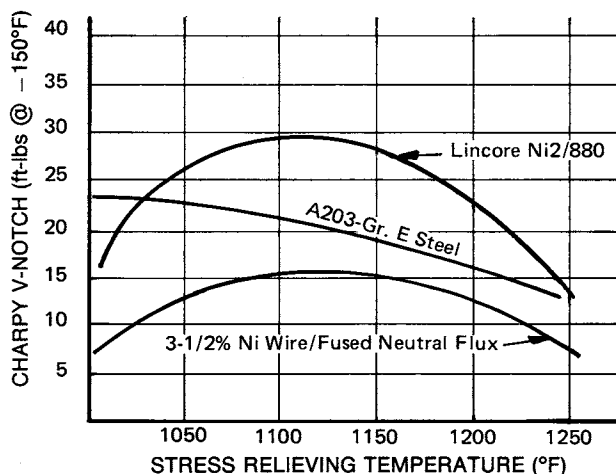

Figure 3
- H The optimum stress relieving temperature for the nickel deposits used to join A203-Grade E steel is  $1100 \pm 25^\circ\text{F}$ . Nickel deposits stress relieved at temperatures below 1050°F or above 1150°F exhibit a severe loss of notch toughness at  $-150^\circ\text{F}$ . (See Figure 3.)